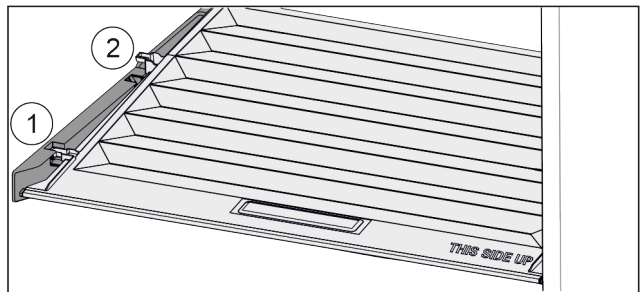

Fig. 107
- ▶ Pull the lid up at the front to the opening in the retaining parts Fig. 107 (1).
- ▶ Lift from the back and pull it up and out Fig. 107 (2).